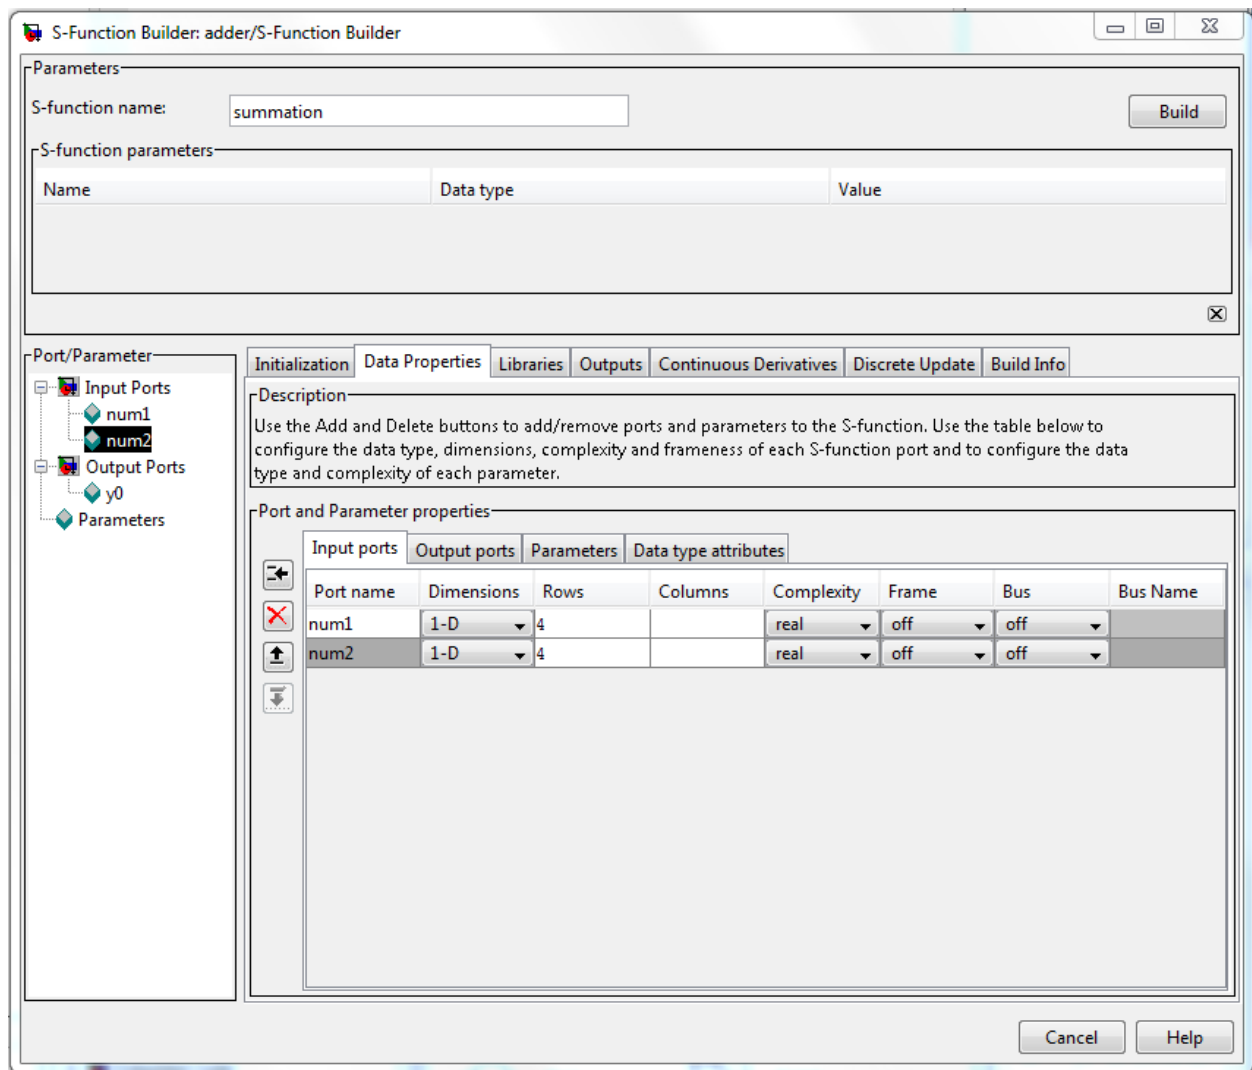

Figure 3
5. Click on the “Data Properties” tab and then on the “Input ports” tab. This is where you will specify the names, types and sizes of your function’s inputs. Create two input ports, num1 and num2. These should be 1-D vectors and have 4 rows, as seen in the figure below. These settings mean that your S-Function will receive 2 vector inputs, each containing 4 elements. See figure 3 for reference.